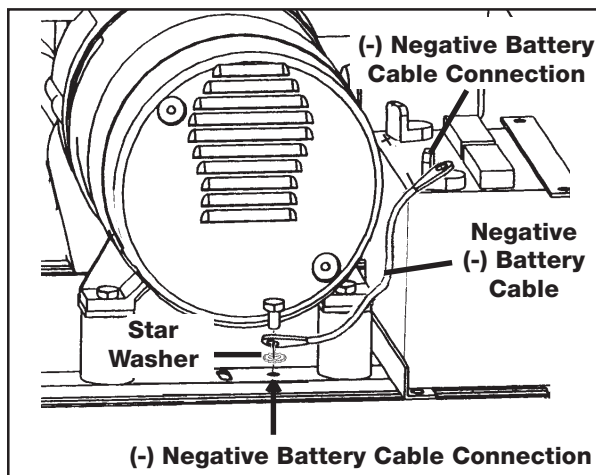

Figure 6
- Attach the other end of the negative (black) cable to the frame as shown. Install the star washer between the cable and the frame. See Figure 6.